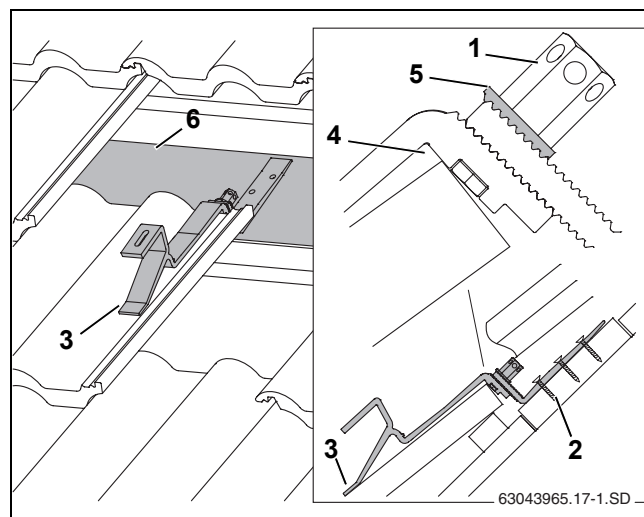

Fig. 16 Fixed roof hook (some tiles have been removed for a better view)
- ▶ Lay support in front in such a way that it will lie in a tile valley when subject to a load (Fig. 16, [3]).
The roof hook must have some looseness at the upper edge of the tile (Fig. 16, [2]). Adjust the top of the tile if necessary.
- ▶ Push the roof hook down until it comes to rest on the rafter or boards (Fig. 16, [6]).
The serrated washer (Fig. 16, [5]) must grip the serrations on the lower part of the roof hook.
- ▶ Tighten the long hexagon nut (Fig. 16, [1]). To do so, insert a size 5 Allen key in the hexagon nut and turn.
- ▶ Secure the lower part of the roof hook to the rafter in at least the first (Fig. 16, [2]) and second holes using suitable screws.